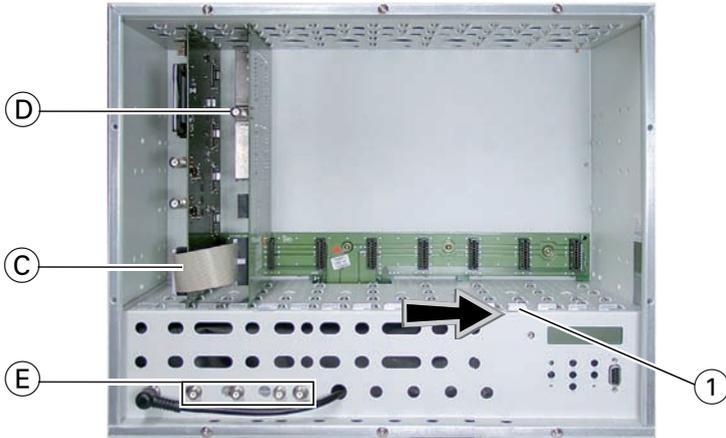

Fig. 3
- After programming, connect the modulator output (D) to one of the input sockets (E) of the output collector (page 7, fig. 3).